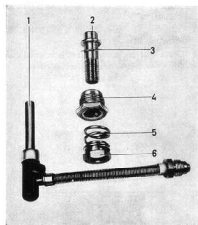

Fig. 28. A dismantled jet
Remove the adjusting nut and lock nut as well as the jet sleeve, see Fig. 28.
3. Fit the jet sleeve and lock nut, see Fig. 28. Push in the jet and centre it, see "Centering the jet".
4. Fit the spring for the adjuster nut and jet, see Fig. 28.
Place the carburettor with the flange with four holes downwards. Screw up the jet adjuster nut so that upper end of the jet reaches up above the bridge. Loosen the lock nut (4, Fig. 28) and press the air valve against the bridge and also move it back and forth a couple of lines. Tighten the lock nut carefully and check the centering by lifting the valve 5–6 mm (1/4") from the bridge and then release it. The valve should then, quite audibly, hit the bridge (jet).